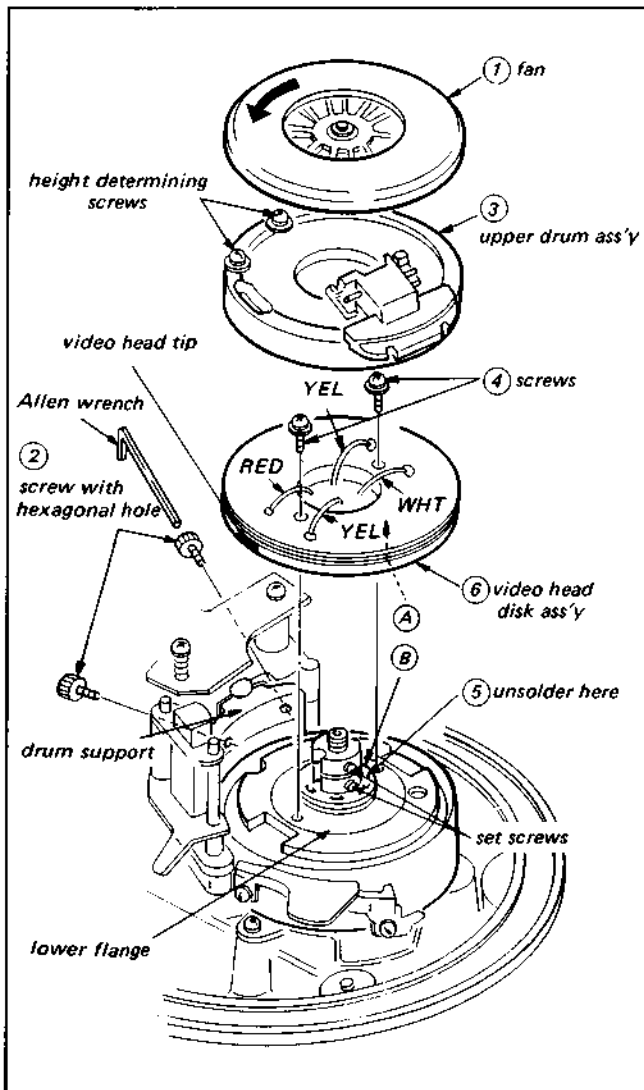

Fig. 3-1. Replacement of the video head disk assembly
1. Remove the video head disk assembly, following Steps ① to ⑥ shown in Fig. 3-1.
- For removing fan ①, hold video head disk assembly ⑥ (without touching heads) and turn the fan in a counterclockwise direction.
- Prior to installing the video head disk assembly ⑥, clean surfaces A and B with a piece of cloth saturated with methanol or isopropyl alcohol.
- (ii) Turn the shaft of the drum counterclockwise slowly with the fingers and adjust the video head disk position so that the variation in the reading of the drum eccentricity adjusting gauge is within  $5\ \mu\text{m}$  during each turn of the drum, by very gently tapping a screwdriver whose blade-tip is against the inner circumference of video head disk assembly (5).
- (iii) Tighten the screws (6) that secure the video head disk assembly (5) alternately and gradually after the eccentricity adjustment is completed. (tightening torque: more than 10 kg.cm.)
- (v) Solder the four leads of the head and remount the upper drum assembly while holding the upper drum height determining screws. (See Fig. 3-1.)